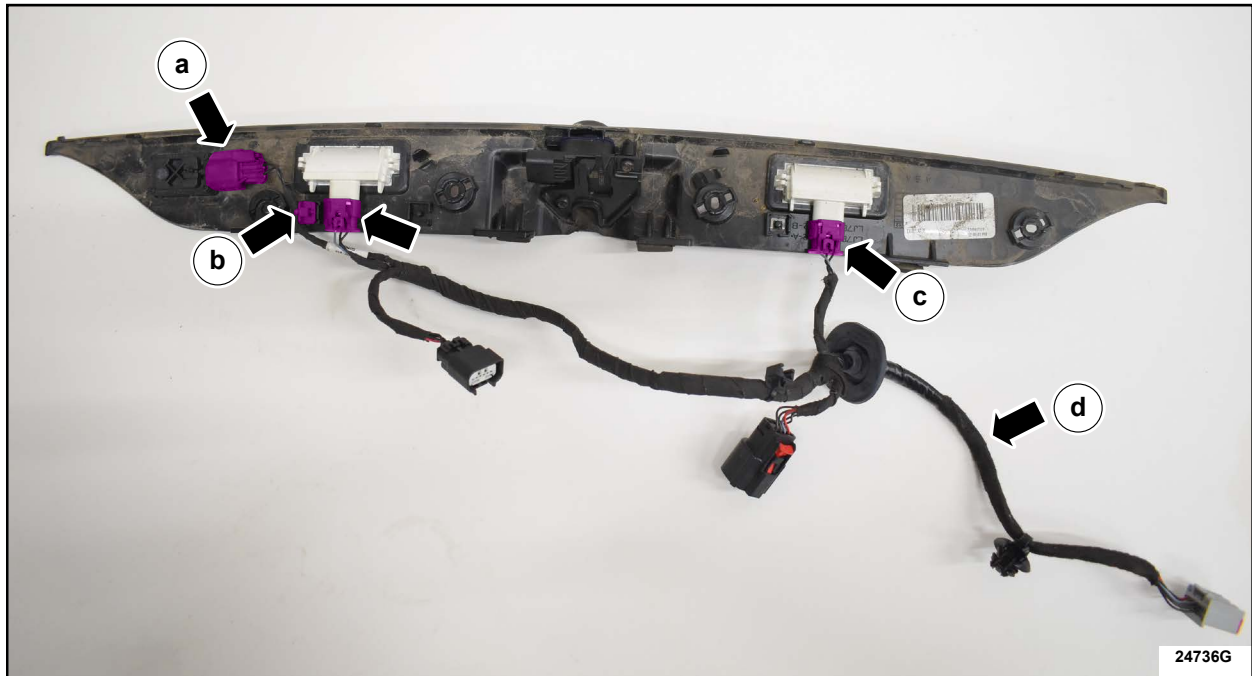

FIGURE 7
8. Remove the liftgate wire harness. See Figure 7.